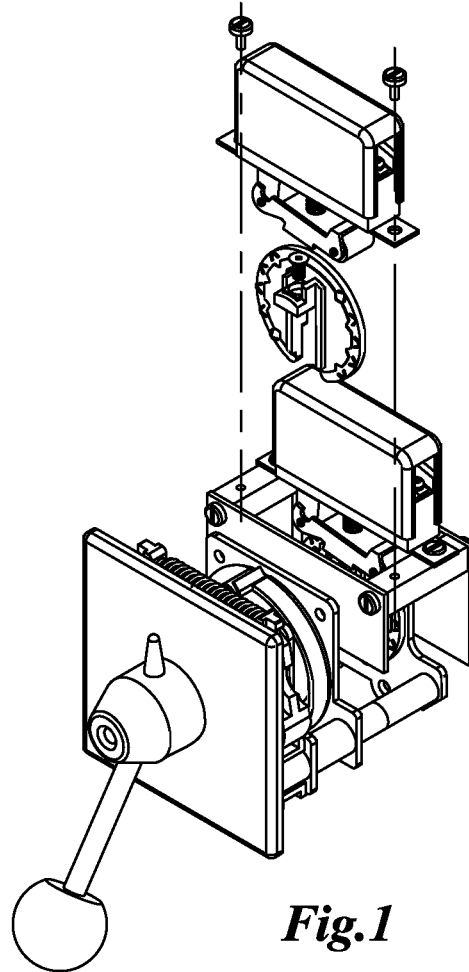

Fig.1
Cam operated contacts are field replaceable and can be change by removing the (2) screws holding the contact block to the mounting rails and lifting-up (see Fig.1). Reinstall by lining up the holes in the tab of the contact block with the holes in the mounting rails. Make sure the actuating arm of the contact block is oriented as was originally installed and as other contact blocks are mounted and that the roller of the actuating arm is centered on the cam. Test contact operation with an ohm meter for continuity. Apply a light film of grease to the roller of the actuating arm. If contacts are to be cleaned it is important to check compatibility of the contact cleaner with the contact block as some contact cleaners will destroy the plastics used in the contact block. Please contact factory before using a contact cleaner. If a contact cleaner can be used it is recommended that it be a low residue spray contact cleaner. (Never file or sand the contact tips).